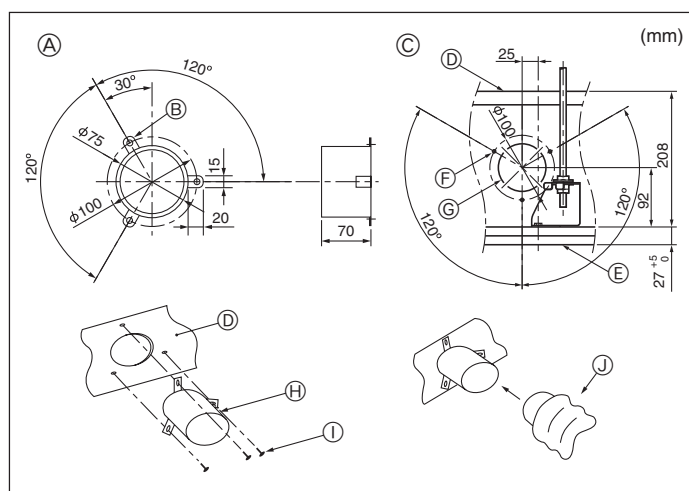

Fig. 4-3
4.3. Installation of duct (in case of fresh air intake) (Fig. 4-3)